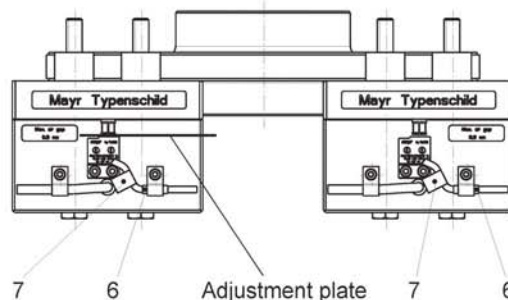

Fig. 2 (ROBA®-duplostop®)
1. Push the spring lock washer (5) onto the thread of the switching bolt (4).
2. Screw the switching bolt (4) into the armature disk (B) using a tightening torque of 3 Nm.
3. Apply the proximity switch (1) assembly inc. the adaptor plate lightly using two cap screws (2) via the spacer (3) so that the proximity switch (1) can still be moved.
4. See the sticker (7) on the proximity switch cable for the dimension of the adjustment plate; join the appropriate adjustment plate between the proximity switch (1) and the switching bolt (4) (Fig. 2/3).